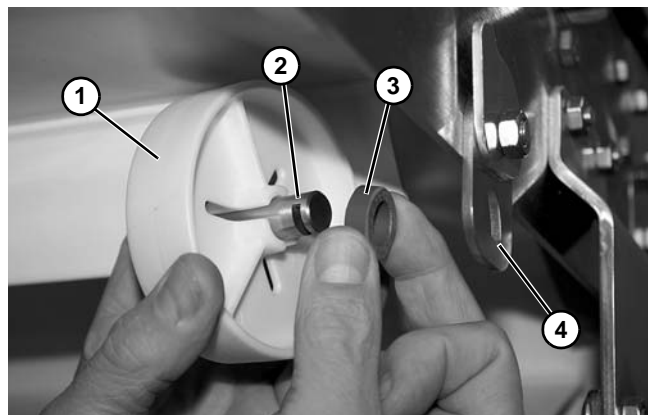

Figure 142
2. Remove puck (Figure 142, item 1), stub shaft (Figure 142, item 2), and spacer (Figure 142, item 3) from return bracket (Figure 142, item 4).